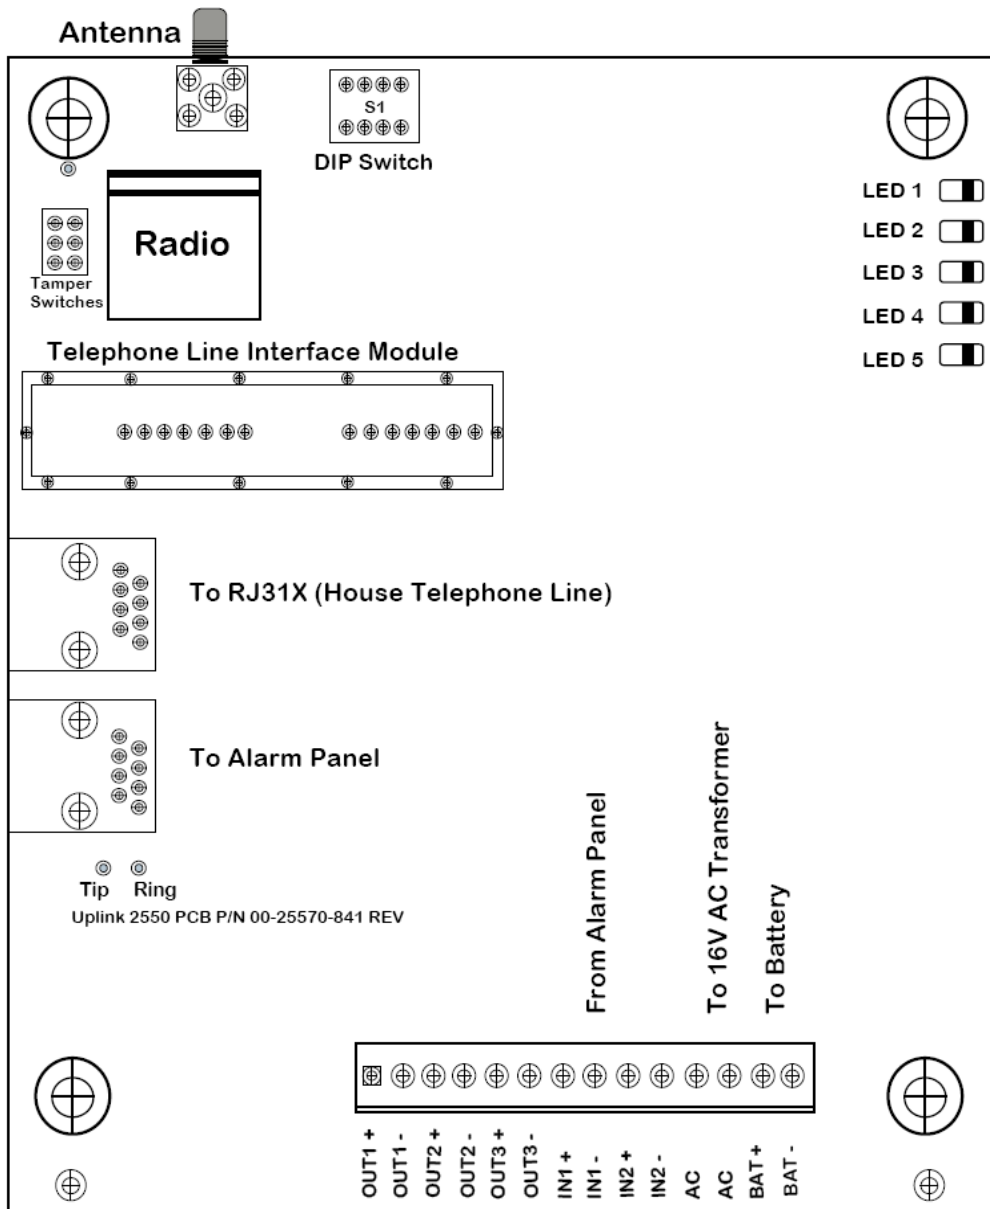

Figure 1: Parts on the 2550 PC Board
3. Go to the red, 4-position Dipswitch as shown in Figure 1 and set the dipswitch as appropriate for this installation. (See Section 7B.)